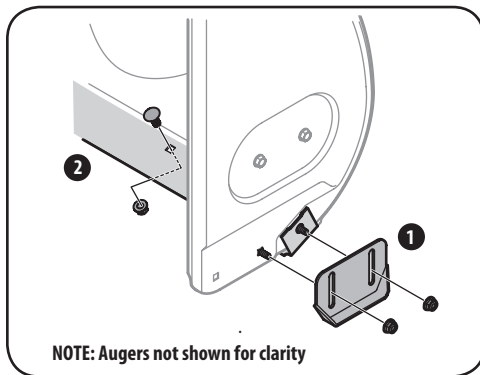

Figure 5-3
1. Remove the carriage bolts and nuts securing each skid shoe to the auger housing, See 1 in Figure 5-3.
1. Remove both skid shoes and hardware, including carriage bolts and nuts attaching the shave plate to the snow thrower housing. For location of shave plate. See 2 in Figure 5-3.